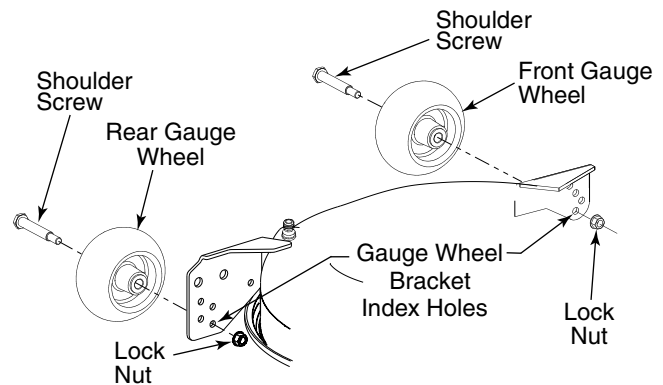

Figure 6-8
- Remove the lock nut securing one of the front gauge wheel shoulder screws to the deck. Remove the gauge wheel and shoulder screw. Refer to Figure 6-8.